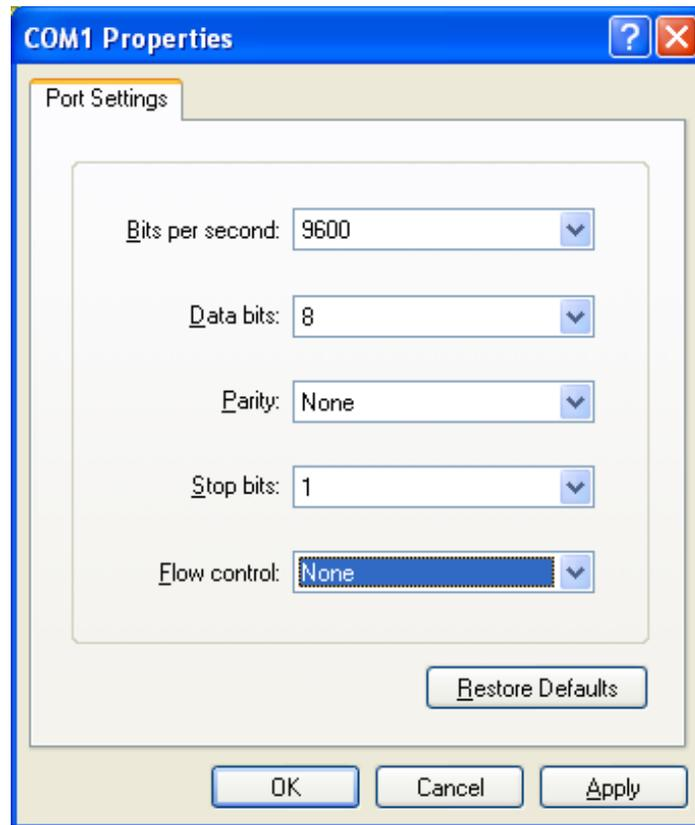

Figure 23 - COM Port Settings
- 4) In the COM Properties window, configure the COM port (see Figure 23):